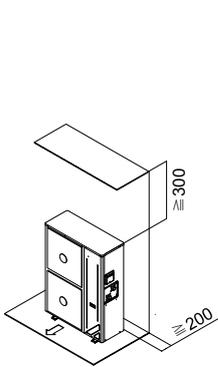

Figure 4
- An obstacle exists at the air inlet side (see Figure 4).